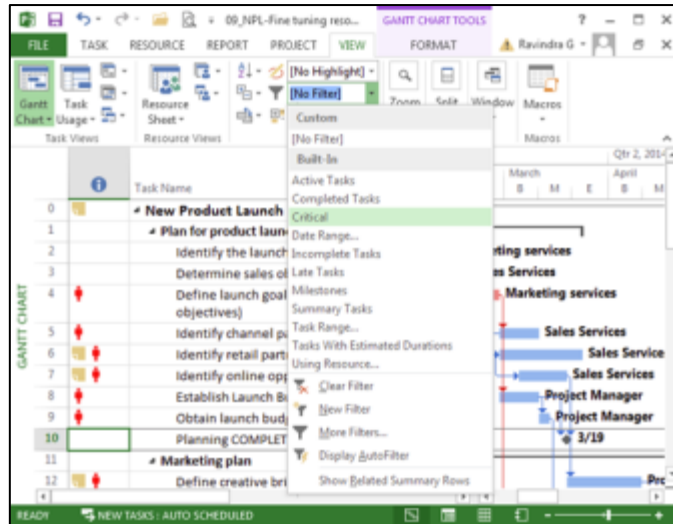

Fig.5.2: Applying Filters
- b) Filter the view for critical tasks by clicking the View tab and, in the Data group, selecting Critical from the Filter list.(Fig.5.2)